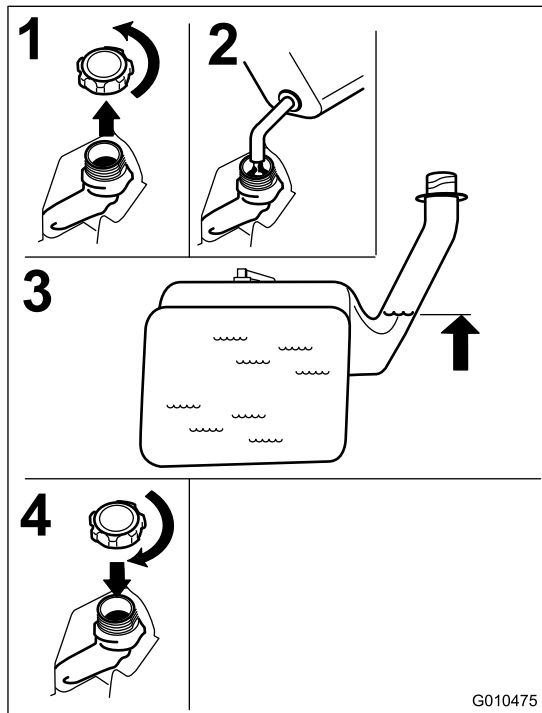

Figure 10
3. Fill the fuel tank to the bottom of the filler neck Figure 10.